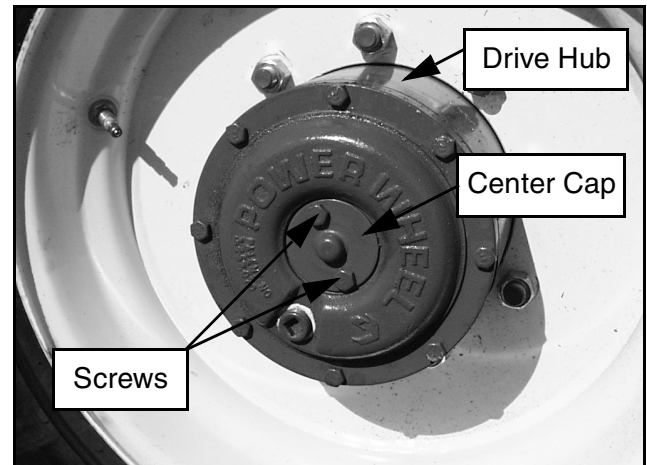

Figure 2-4: Drive Hub (Operating position shown)
2. Refer to Figure 2-4 and disengage all four drive hubs. Remove two (2) screws and center cap. Reinstall center cap in the opposite direction.